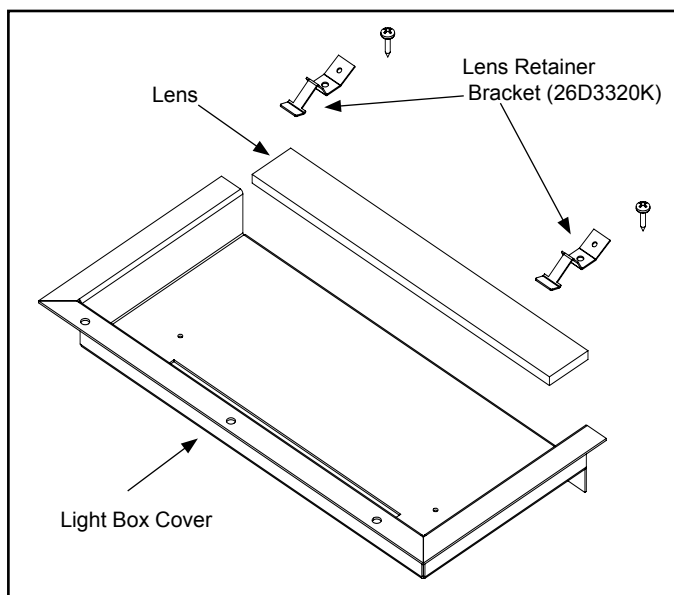

Figure 10.8 Lense Retainer Bracket Removal
4. The light lenses, lens retainer brackets and screws are included in the Homeowner's Manual packet. Install the light lenses into the light cover box and secure with the lens retainer brackets and screws as shown in Figure 10.8.